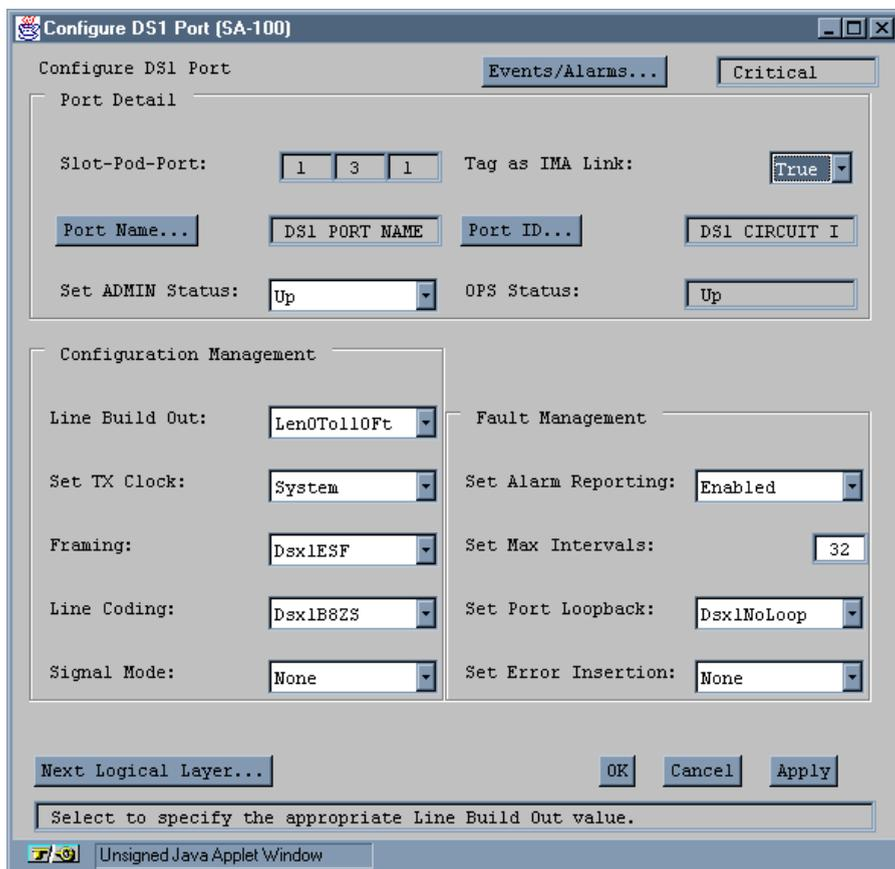
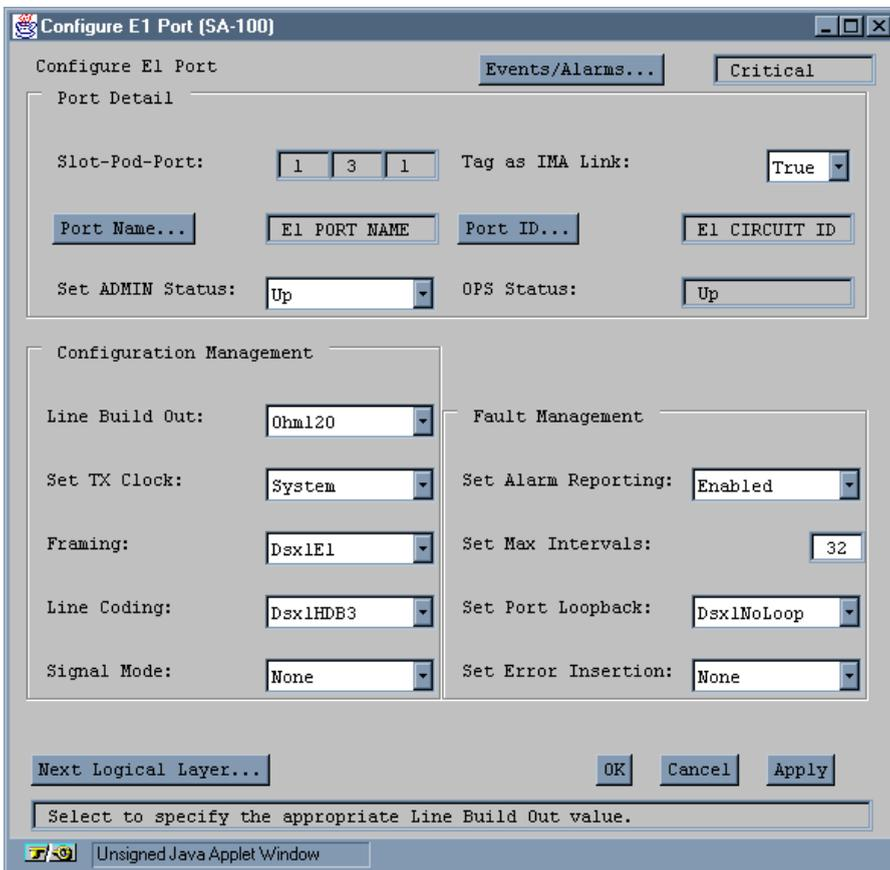

Figure 4-4. Configure DS1 Port Window
Figure 4-5. Configure E1 Port Window
1. Select the desired port from the Interface Management window, as described on page 4-3. The Configure DS1 (or E1) Port window appears (Figure 4-4 shows the Configure DS1 Port window, Figure 4-5 shows the Configure E1 Port window).